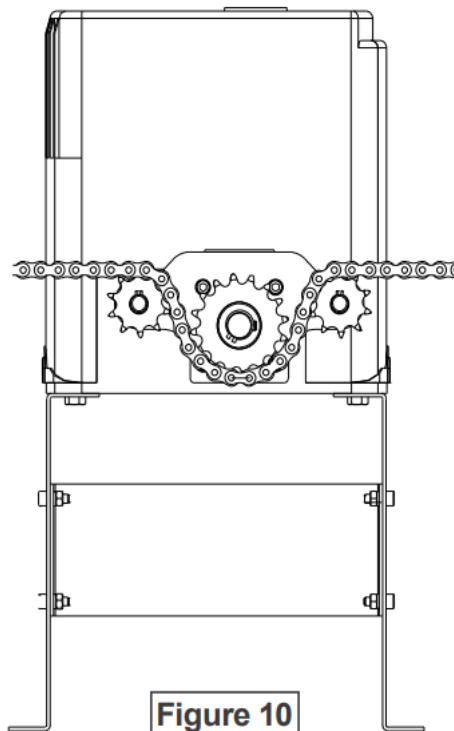

Figure 10
- Installation of chain, small and big sprocket is shown in Figure 10: